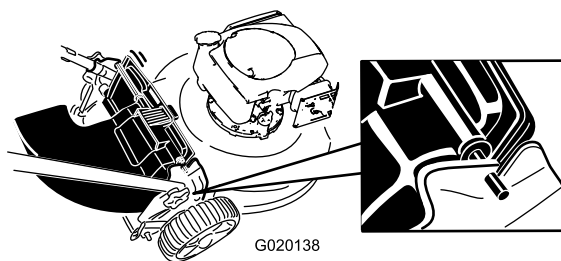

Figure 18
4. Insert the rod on the rear-discharge deflector into the notches on the machine (Figure 18).